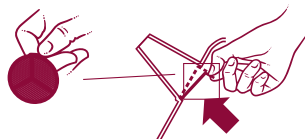

Fig. 2
- Remove the anti-scale filter using a long (but not pointed) object, pushing down through spout towards the inside of the kettle until the filter comes out of its housing (fig.2).